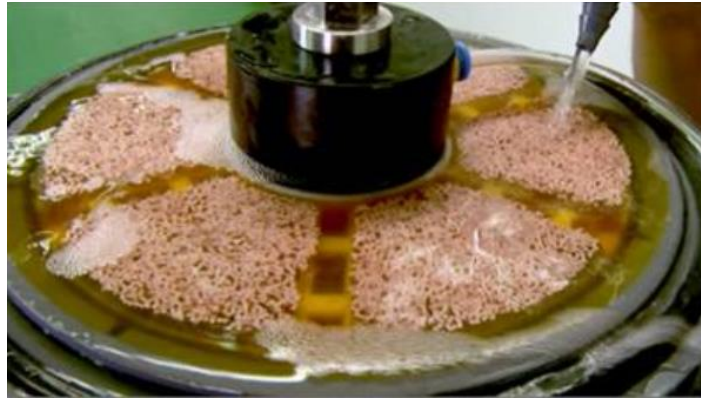

Figure 36. Applying water to the filtrate end of the fibers
5. Introduce water to the top of the fibers to wet the filtrate surface (as shown in Figure 36). If there are compromised fibers, large air bubbles will appear as the pressure is raised. Mark the leaking fiber with a pin or marker where the bubble appears.